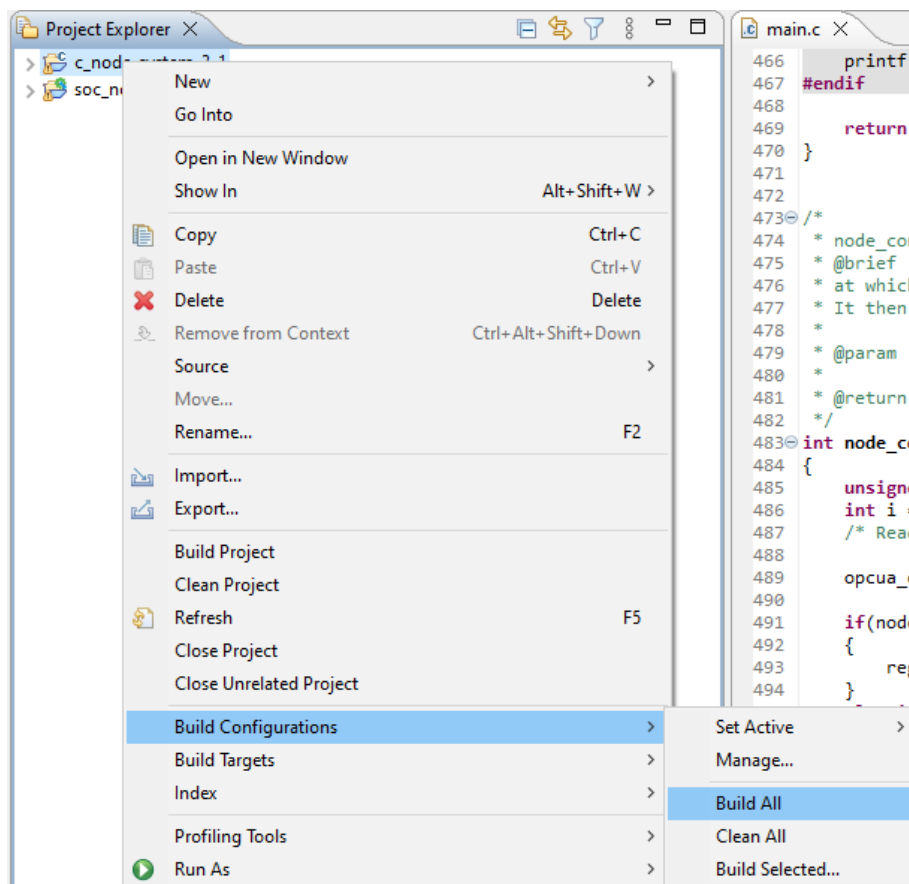

Figure C.50. Build All
- After cleaning, right-click on `c_node_system_3_1` and select the option as shown in Figure C.50 to build the project.